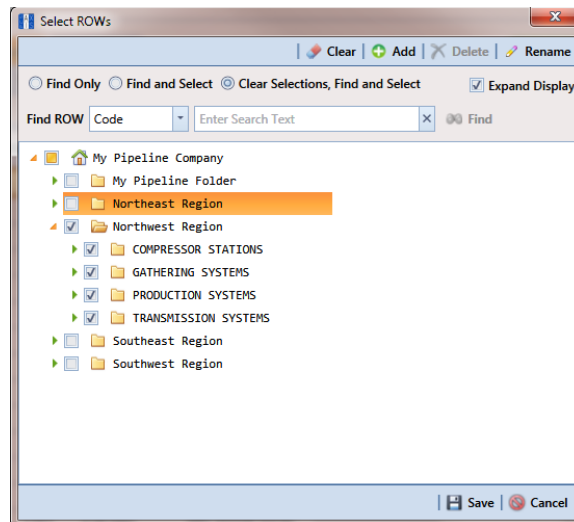

Figure 7-6. Select ROWs
- 1 Click the **Select ROWs** button  to open the *Select ROWs* window (Figure 7-6). Select one or more pipeline segments with facilities you want to include in the route. Click  **Save** to close the window.
- a Select one or more pipeline segments in the *Select ROWs* window (Figure 7-6, page 289). Click **Save** to close the window.
- 1 Select one or more pipeline segments in the *Select ROWs* window (Figure 7-6, page 289). Select pipeline segments with facilities you plan to include in the route. Click  **Save** to close the window.